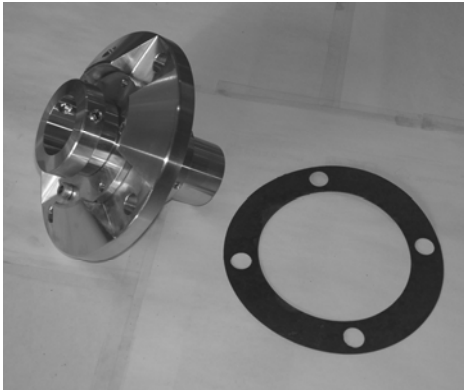

Figure 47: Cartridge Seal and Gasket
2. If installing an entire cartridge seal, place the gasket onto the gland of the cartridge seal. (See Figure 47.) Grease may be used to hold the gasket in place. Slide the complete assembly over the shaft until the gland fully seats into the coverplate bore. Install and tighten the four cartridge seal capscrews. Push the sleeve fully home to axial stop and tighten set screws to 130 inch-lbs.